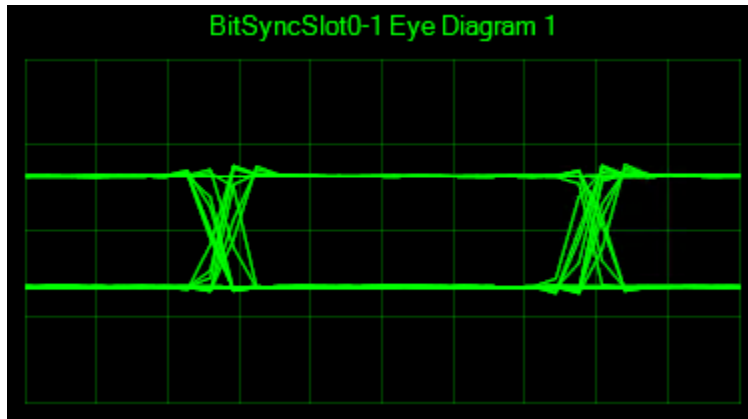

Figure 103 – Eye Diagram
1. On the ALTAIR main screen, select a **Bit Sync** in the Hardware Explorer window and select the **Bit Sync\Displays\Eye Diagram** menu option from the main menu, or click the Eye Diagram button on the Bit Sync toolbar. The Bit Sync Eye Diagram window will be displayed. (See Figure 103 – Eye Diagram below.)